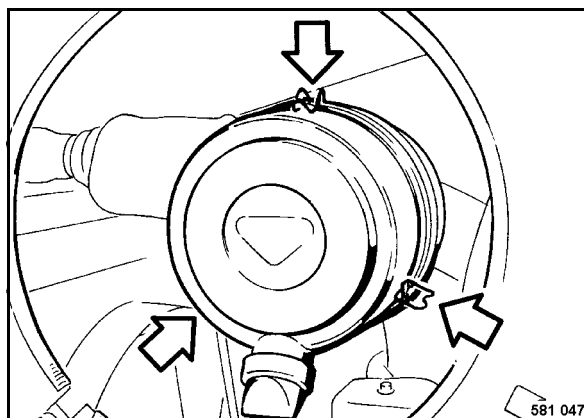

Fig. 103
- Release the locking hook (Fig. 103) and take the filter hood off.